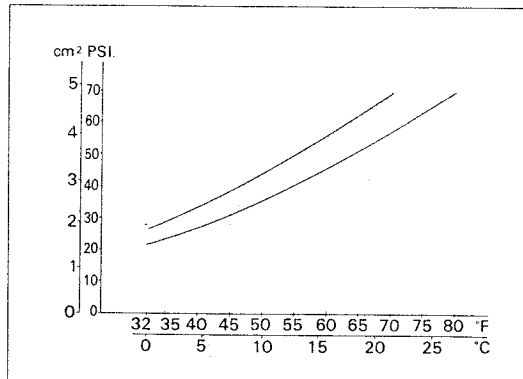

Fig. 58
- 7) Relate two readings on the following chart. See Fig. 58.